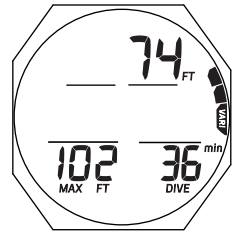

Fig. 97A - GAUG DIVE MAIN (without Run Timer)
**GAUG DIVE MAIN**, information includes (Fig. 97A, B) -